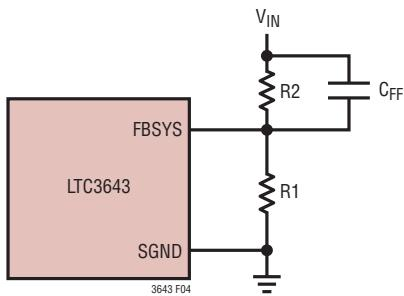

Figure 4. Setting The  $V_{IN}$  Voltage In Step-Down Mode
**FBSYS (Pin 8):** Feedback Input to Step-Down Regulator Control Loop. Connect a resistor divider tap to this pin. The VIN voltage can be adjusted such that VIN = 0.6V (1+R2/R1) (See Figure 4).